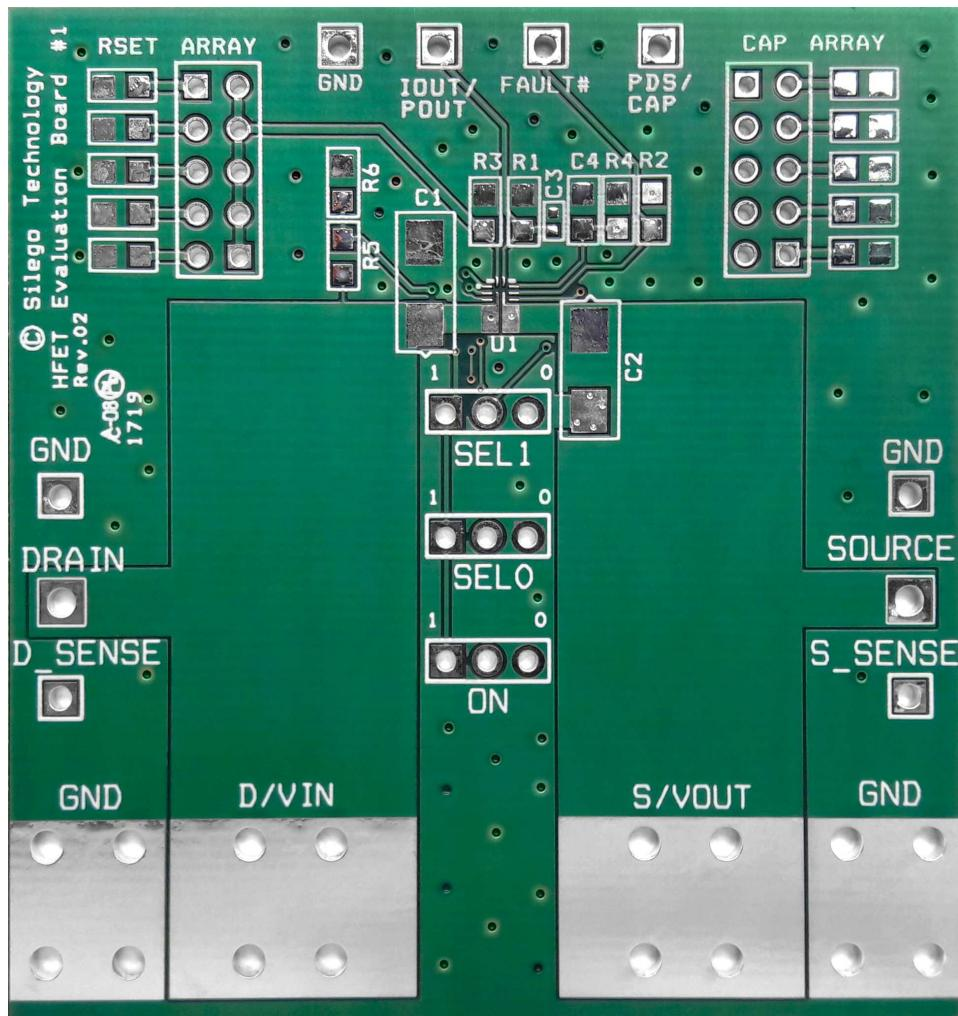

Figure 10. SLG59H1126V Evaluation Board
1. Since the VIN and VOUT pins dissipate most of the heat generated during high-load current operation, it is highly recommended to make power traces as short, direct, and wide as possible. A good practice is to make power traces with absolute minimum widths of 15 mils (0.381 mm) per Ampere. A representative layout, shown in Figure 10, illustrates proper techniques for heat to transfer as efficiently as possible out of the device;
A High Voltage FET Evaluation Board for SLG59H1126V is designed according to the statements above and is illustrated on Figure 10. Please note that evaluation board has D_Sense and S_Sense pads. They cannot carry high currents and dedicated only for RDS_{ON} evaluation.